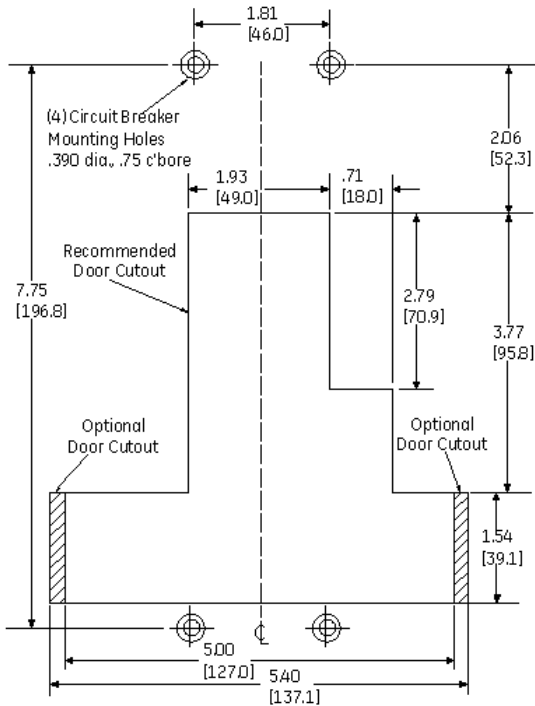

Figure 1. Mounting Hole and Escutcheon Cutout Pattern in/(mm)
1. Drill and tap all mounting holes and make any necessary front-panel escutcheon cutouts, as shown in Figure 1.